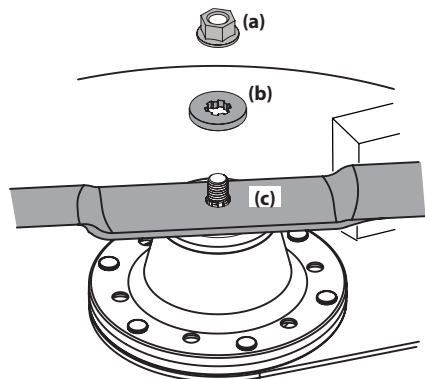

Figure 4-25
2. Remove the flange lock nut (a) and flat washer (b) from the spindle shaft, and remove the blade (c). See Figure 4-25.